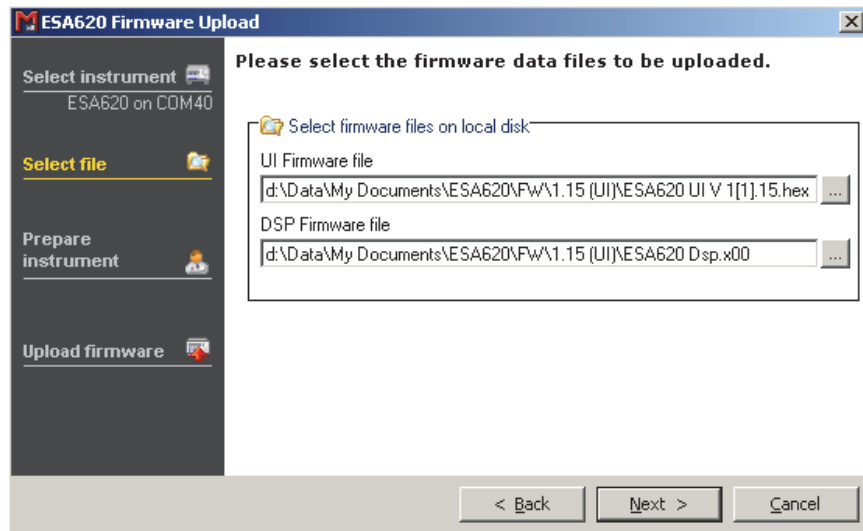

Figure 4-48. Firmware Files Upload Dialog Box
3. Select the firmware file(s) to upload to the instrument. Some instruments may have two firmware files, one for the User Interface (UI) and one for the measurement system. You can upload both in the same session as shown in Figure 4-48, or you can upload one file and leave the other blank.